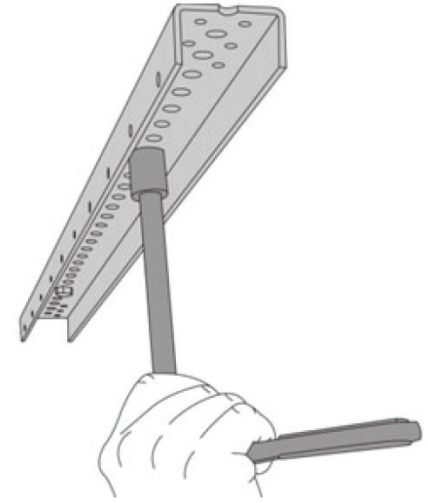

fig 2.3
12. Use a ratchet with a 1/2 inch socket to attach the Smart Track to the ceiling using one of the included lag bolts and washers. (fig 2.3) **NOTE: If the lag bolt turns freely, your pilot hole is likely not hitting the ceiling joist. If this is the case, find the center of the stud and drill a new pilot hole.**